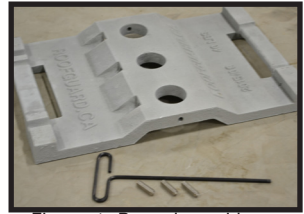

Figure 1: Baseplate with set screws and assembly tool
6.4-A With the RoofGuard baseplate as shown in Figure 1, slide the RGF-155 fitting down the post to almost touching the baseplate. (For existing systems the post may be temporarily removed from the baseplate and the fitting slid up from the bottom).